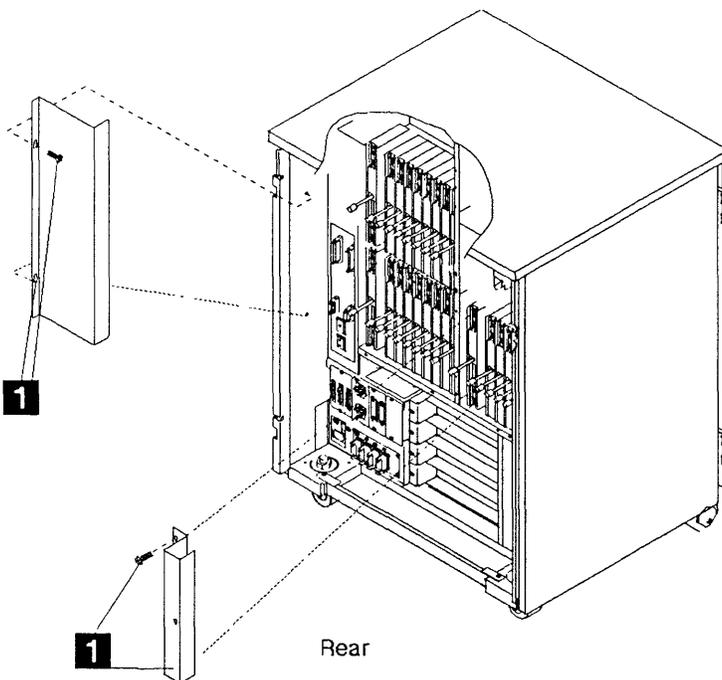

Figure 4-47. DMUX Cover
3. Take away the related DMUX cover. Refer to Figure 4-47. Two screws must be removed **1**. (Two kinds of DMUX cover exist, according to the board location.)
4. Re-install the DMUX cover with the 2 screws. Refer to Figure 4-47 on page 4-36.